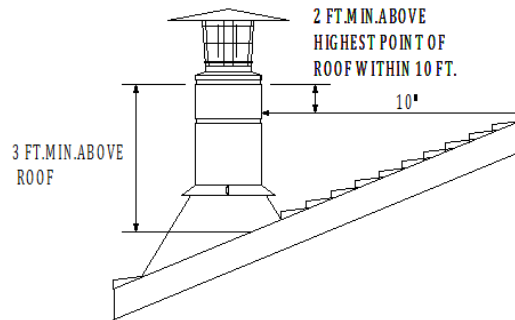
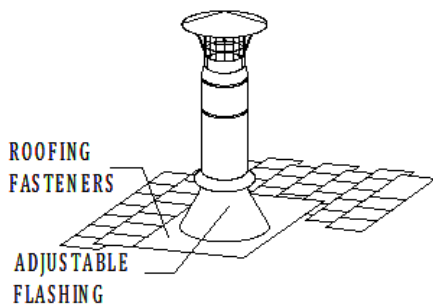
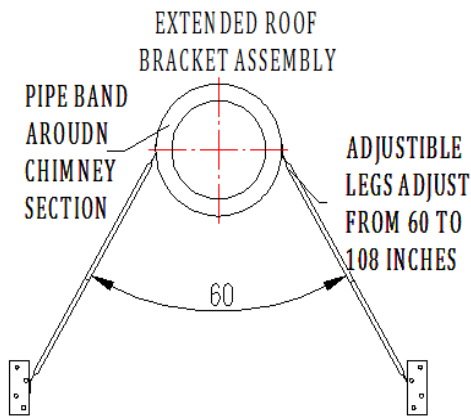

Fig.1
Fig 11
Fig 14
The National Fire Protection Association Standard #211 states: "Chimneys shall extend at least three feet above the highest point where it passes through the roof of a building, and at least two feet higher than any portion of a building within ten feet." (Fig 1) If the chimney extends more than 5 feet above the roof, a Roof Brace must be used (see page 9). Due to the overlap of the joints, subtract 1-1/8 inches from each Chimney Section's height to calculate installed height.
Flashing. Always insure the chimney remains vertical (use level), and that at least a 2-inch clearance to combustible materials is maintained all around. Install the upper edge of the Flashing under the roofing. Nail to the roof along the upper edge and down each side with 1-inch roofing nails. Do not nail the lower edge of the Flashing (Fig 11). Be sure to follow local building practices, as needed. Seal all nail heads with a non-hardening waterproof sealant. On flat or tarred and graveled roofs, nail and seal the Flat Roof Flashing to the roof on all sides with roofing compound. Do not put screws through the Flashing into the Chimney Pipe.
**10. Finish Top:** Apply a high-temperature (5000F), non-hardening waterproof sealant around the chimney at the point where the Storm Collar will meet the chimney just above the Flashing **1/2 INCH**. (Figures 11 and 12). Slide the Storm Collar down over the chimney to the **tab** of the Flashing. Tighten and seal the Storm Collar against the sealant. After installing sufficient Chimney Sections to meet the height requirement (Fig 1), attach the Chimney Cap onto the top of the chimney by holding the collar of the cap and twist locking it clockwise onto the chimney. Do not hold upper portion of the cap and twist, as this may damage the cap. The Chimney Cap can be removed for chimney cleaning as described in the Chimney Maintenance section of the instructions. Use a Roof Brace if the chimney extends more than 5 feet above the roof (Figures 14 & 15 in the Roof Brace).
**2. Attach the Legs:** The Adjustable Legs of the assembly will adjust from 60" to 108". Secure one end of the Legs to the Pipe Band using the nuts and bolts included (1 per Leg). Position the Adjustable legs so they form approximately a 60° angle with the chimney, and with each other (Figures 14 and 15). Be sure that there is at least 3" of overlap between the top and bottom halves of the Adjustable Leg. In order to secure Legs in proper position, there is a hole provided in the outer leg where the outer and inner halves overlap. Use a 1/4" drill bit to drill through the inner leg at that location. Use the nut & bolt provided to pin the Adjustable Legs in position.
**3. Install Roof Bracket:** Mount the two Roof Brackets where each of the adjustable Legs meets the roof, using (6) 1" roofing nails per bracket. Seal the nail heads carefully with a non-hardening, waterproof sealant. Attach the bottom end of the Adjustable Legs to the Roof Brackets using the nuts & bolts provided.